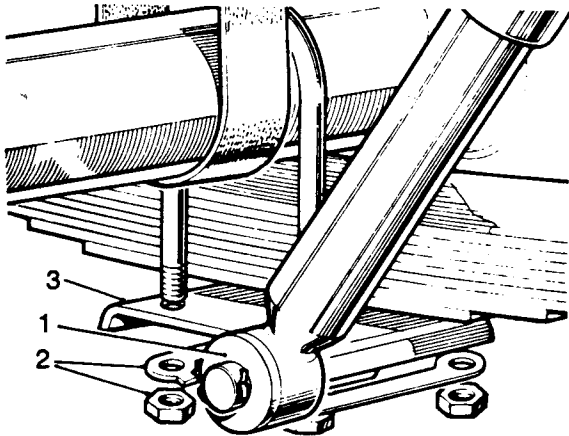

Fig 14.2
- (5) Refer to Fig 14.2. Disconnect the shock absorber (1) at the lower fixings.
- (6) Remove the fixings (2) and withdraw the spring support plate (3).